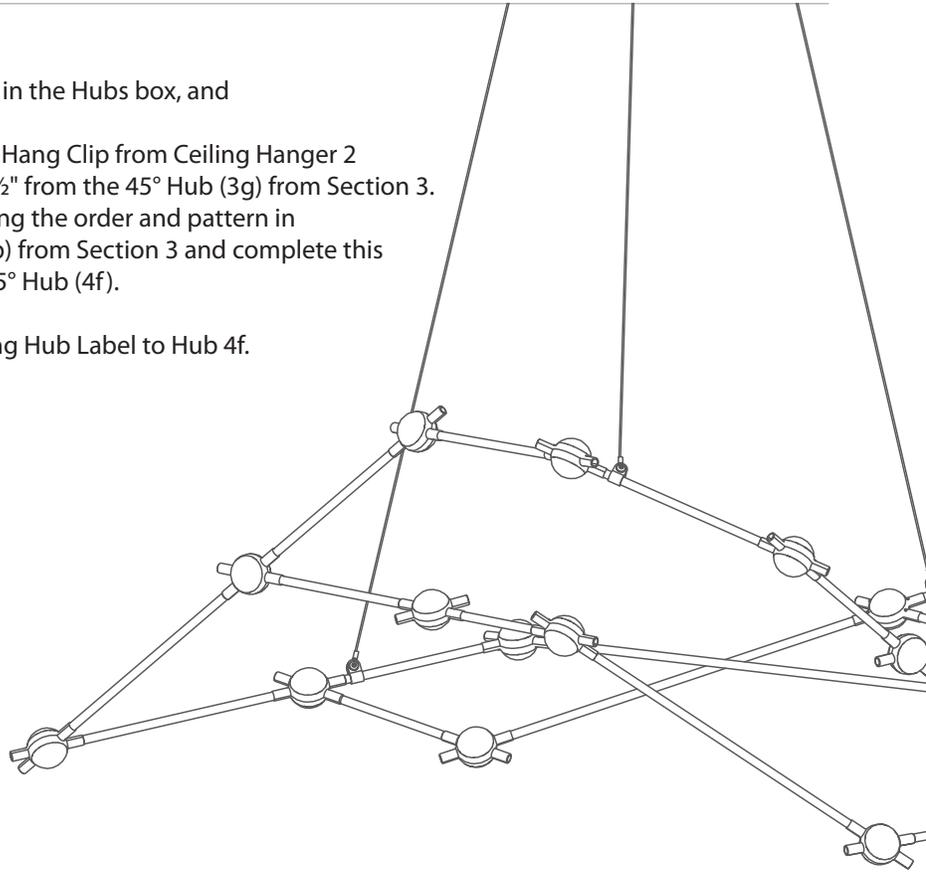

Fig. 8a - Front View
- Continue by connecting Arms and 45° Hubs following the order and pattern in Figs. 8a/8b, attaching the C8 Arm to the 45° Hub (3b) from Section 3 and complete this section by connecting the remaining C5 Arm and 45° Hub (4f).